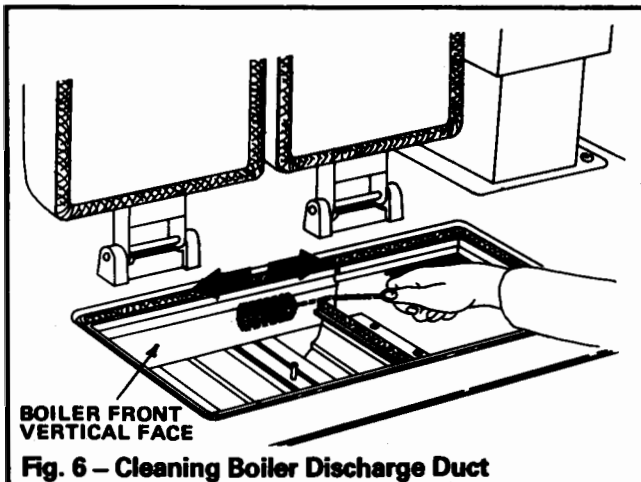

Fig. 6 – Cleaning Boiler Discharge Duct
- d. The front vertical face of the boiler flue discharge duct See Fig. 6 is located beneath the rear edge of the hotplate opening (L.H. end) and which terminates over the oven top.
Insert brush into boiler discharge duct and vigorously brush sideways inside duct to remove any deposits. See Fig. 6.